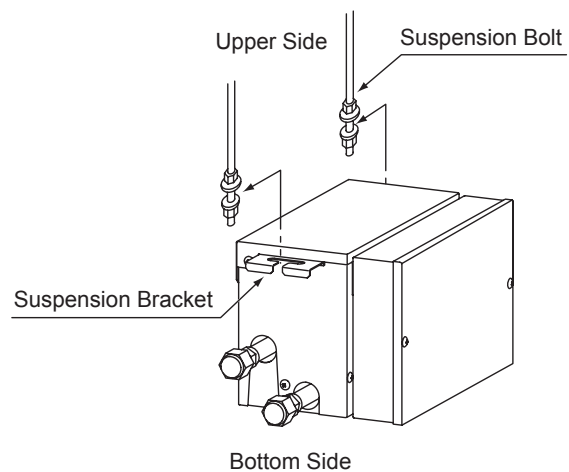

Fig. 4.5 Hanging Method
(2) Hanging the Switch Box
- (b) Insert the suspension bolt into the groove part of the suspension bracket as shown in Fig 4.5. Ensure that the washers are correctly fixed to the suspension bracket.